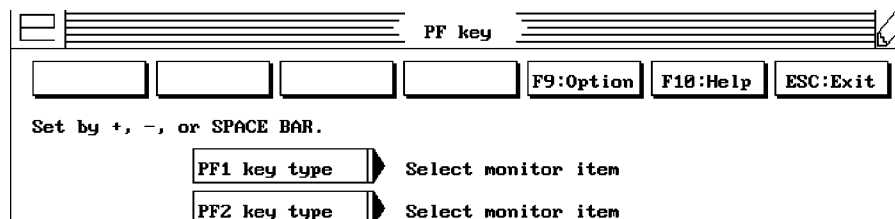

Figure 12
2. A PF key menu appears (Figure 12).